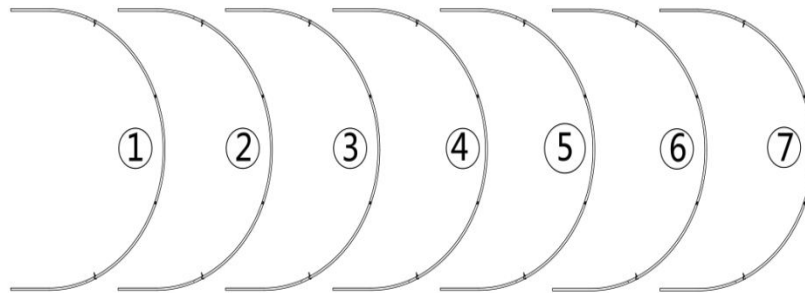

Figure 4
- (2) Mushroom head hexagon socket head bolt (#11)
- Lay down all (7) trusses on the ground as Figure 4 when the assembly is all completed and before moving to next step.